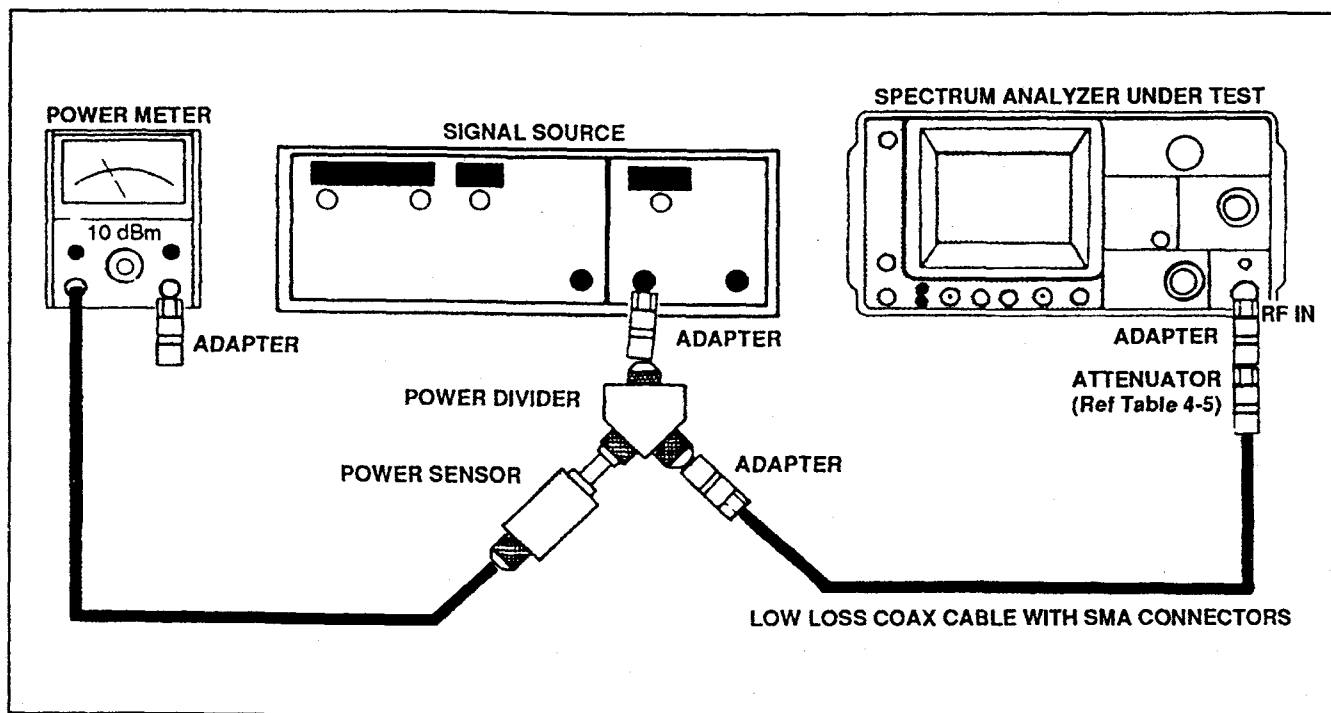

Figure 4-14. RF attenuator test equipment setup.
a. Connect the test equipment as shown in Figure 4-14. Set the Spectrum Analyzer controls as follows:
b. Connect the test equipment as shown in Figure 4-14. Set the Spectrum Analyzer controls as follows: